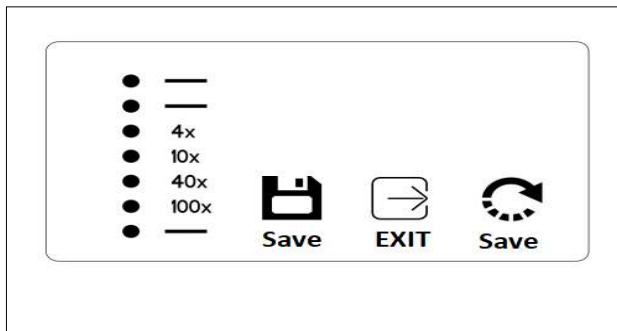

Fig.14
5. Objective turntable setting: Select Set through the knob and click the knob to enter the objective turntable setting state, as shown in Figure 14.